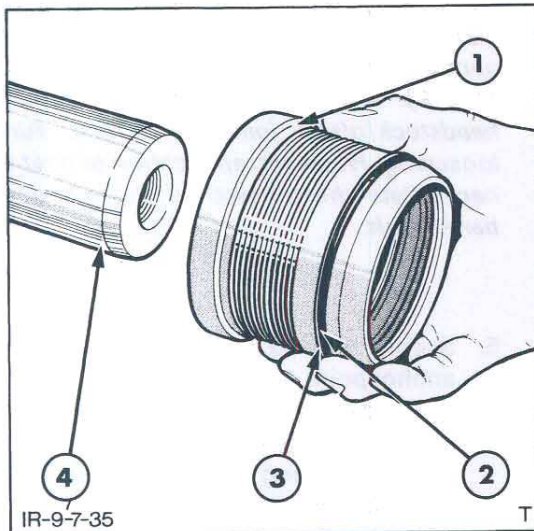

Figure 33
6. Remove the gland from the rod, Figure 33.